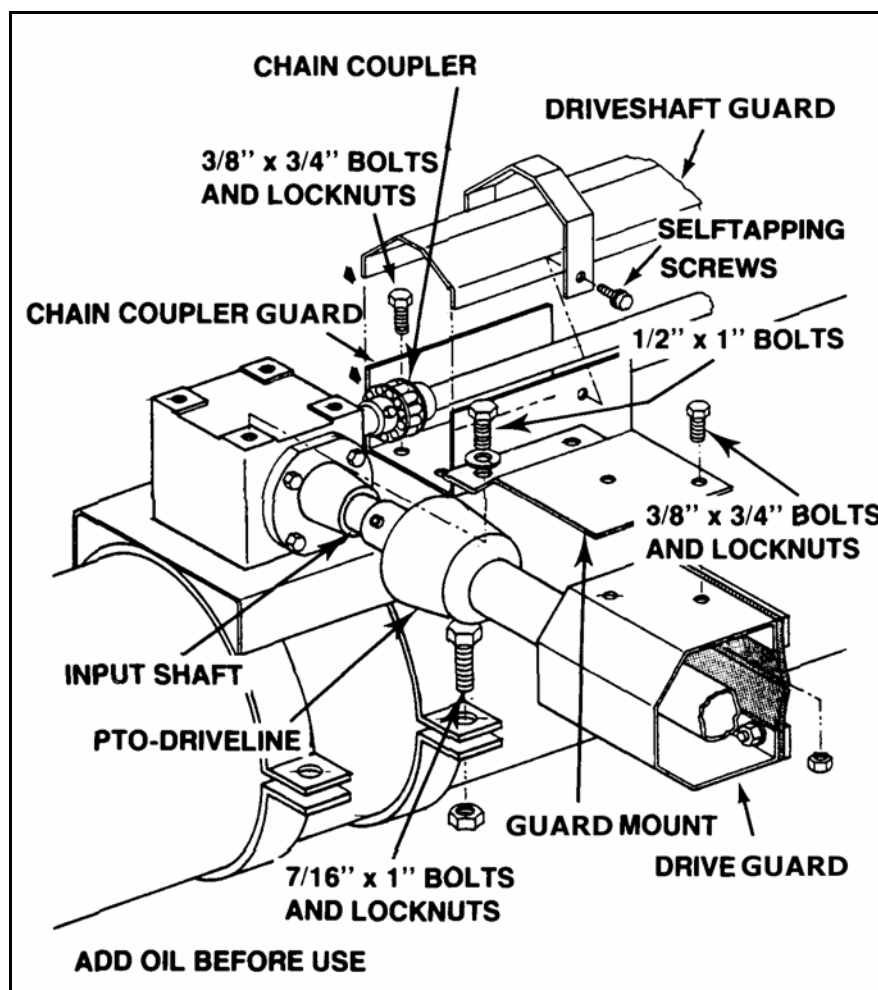

Figure 3.9
See Figure 3.9.
4. Place driveshaft shield against gearbox and over chain coupler guard, then secure with a guard strap and two self-tapping screws (Figure 3.9).